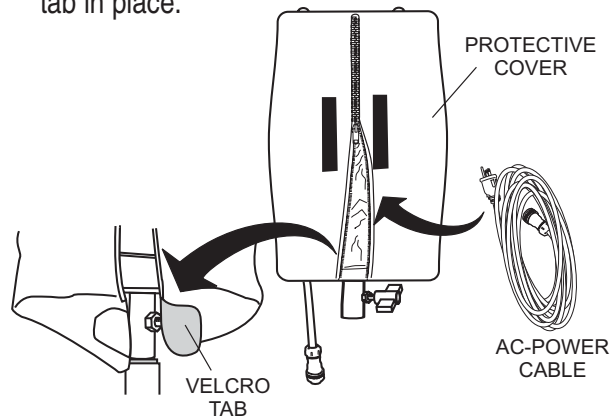

Figure 10. Zipping the Protective Cover
5. Place the AC power cable inside the protective cover (Figure 10). Fully zip protective cover and fold velcro tab in place.